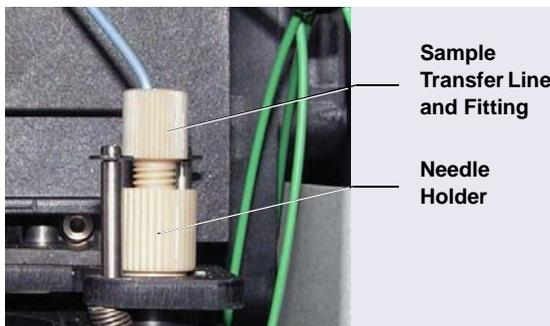

Figure 5-47. Sample Transfer Line Connected to the Needle
3. While holding the needle holder to prevent twisting of the needle (see Figure 5-47), disconnect the sample transfer line from the needle. Remove the fitting from the line (save the fitting bolt).